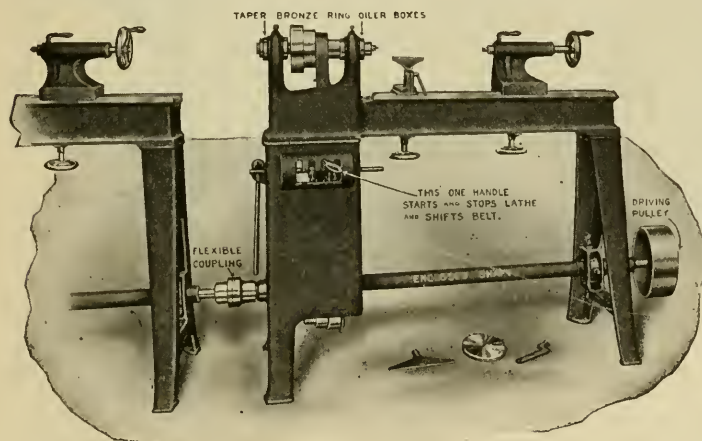

Fig. 50—UNDER-DRIVE TYPE OF WOOD-TURNING LATHE.
48. General-- There are several different forms of wood turning lathes in use. Some have an overhead drive and run from a counter shaft. Others have a motor head where the lathe in Fig. 50 has a cone pulley. The other type, and the one most used is the one shown in Fig. 50, and is called an under-drive. These lathes are also built in different sizes. The size is determined by the largest diameter of the stock which it will turn, and the longest length which can be turned between centers.
50. Speed and Power-- $\frac{3}{4}$ H. P. is necessary when an individual motor drive is used on the average medium size lathe as found in school shops. As already stated in article 48, the under-drive type is more economical. While a $\frac{3}{4}$ H. P. motor is necessary for an individual drive in order to meet maximum conditions, a 3 H. P. is quite ample to drive a line of six or eight lathes with individual control. It is readily seen that in a group of six or eight lathes only a few will be doing heavy duty work, since most of the work attempted in school shops is of a small diameter. The drive shaft referred to may be noted in Fig. 50, and is inside of the casing marked "enclosed shaft." The drive shaft and pulley should be of such a diameter as to give a spindle speed of from 700 to 3000 R. P. M. In the case of the machine represented in Fig. 50, the speed of the drive shaft should be approximately 600 R. P. M.